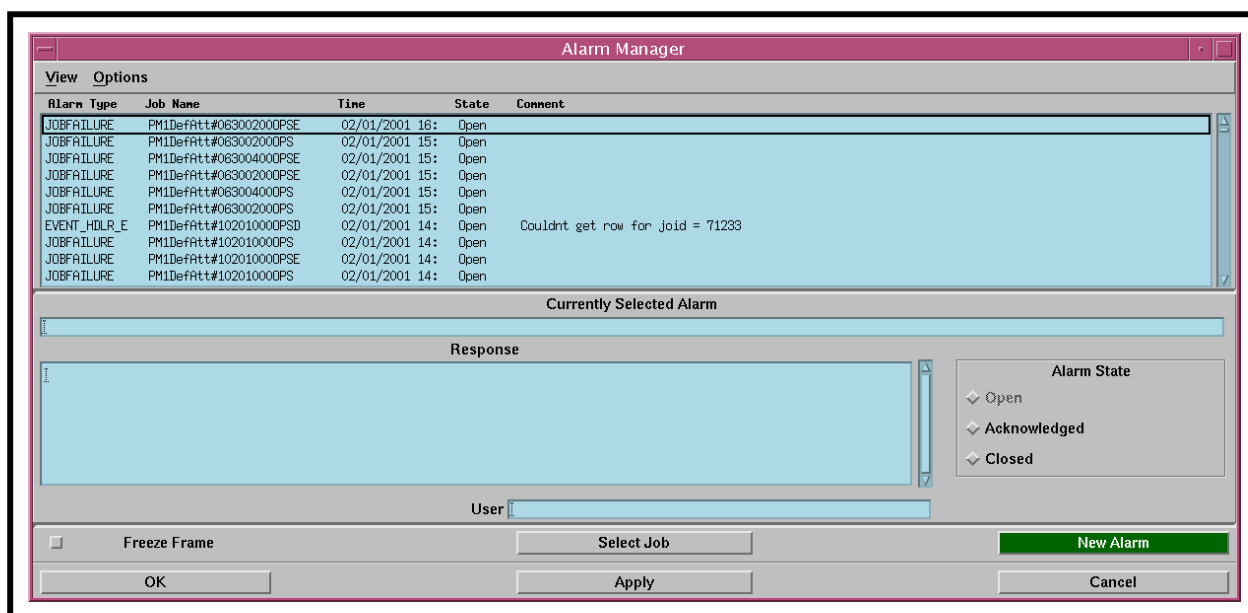

Figure 71. Alarm Manager GUI
- The **Alarm Manager** GUI (Figure 71) is displayed.